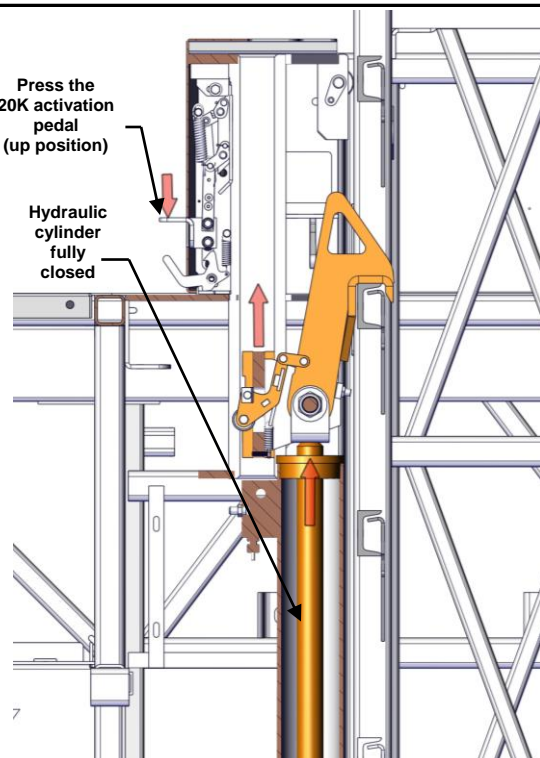
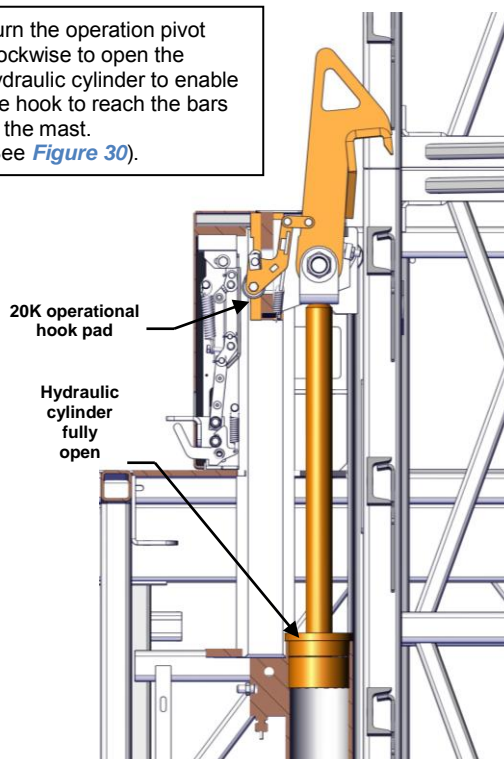

Figure 36 – (Elevating)
Figure 37 – (Elevating)
- 17- When the « 20K hook » reaches the bar, the cylinder is fully open. Turn the « 20K operation pivot » counter clockwise to close the cylinder. First, the « 20K hook » rests on the bar and second, the platform is raised until this cylinder is fully closed (see Figure 36, Figure 37 and Figure 38).
Figure 36, Figure 37 and Figure 38 illustrate the inner workings of the platform while it is being raised.